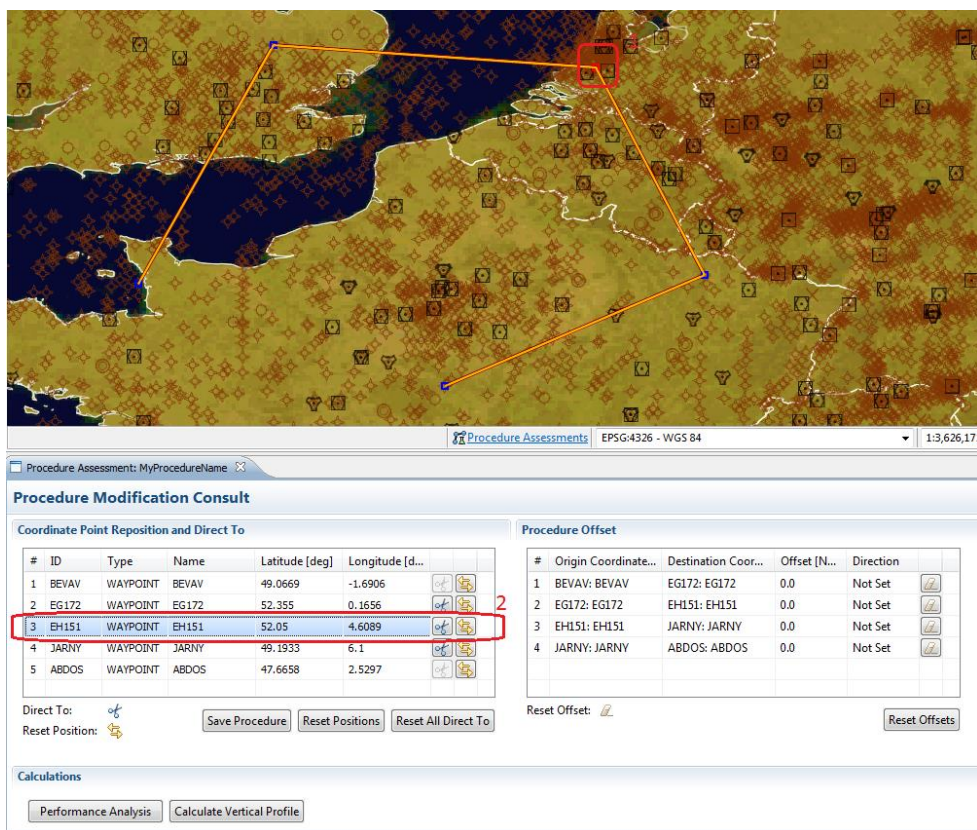

Figure 191: Procedure Assessment (Direct To tool)
Using this tool will consider the selected coordinate point "ignored" or "jumped", on the current procedure. In Figure 191, the third coordinate point (1) is selected and highlighted on the "Coordinate Point Reposition and Direct To" list (2).